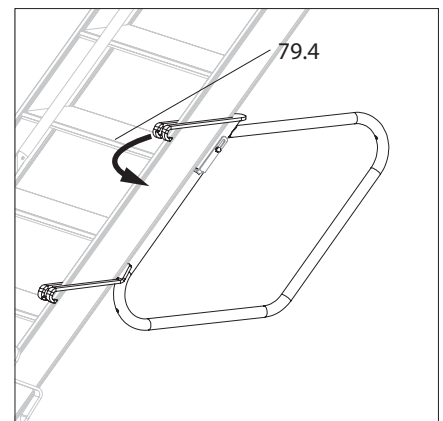

Fig. A8.07b
2. Lower the stair guardrail to the step and pull the mounting rings all the way to the front edge of the step (79.4). (Fig. A8.07b)